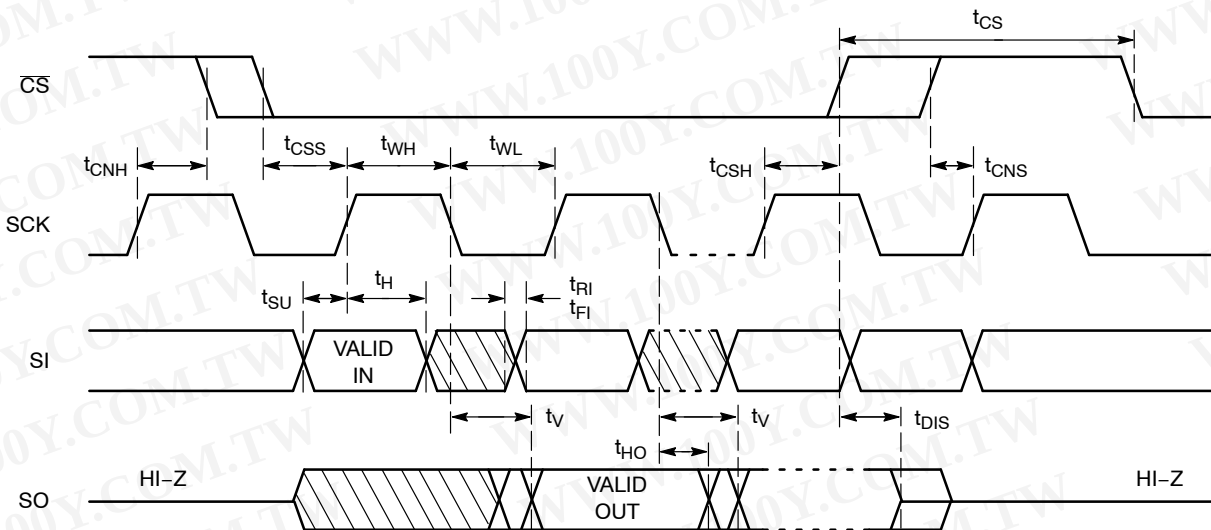

Figure 2. Synchronous Data Timing
7. **All Chip Select (CS) timing parameters are defined relative to the positive clock edge (Figure 2). t_{CSH} timing specification is valid for die revision C and higher. The die revision C is identified by letter "C" or a dedicated marking code on top of the package. For previous product revision (Rev. B) the t_{CSH} is defined relative to the negative clock edge (please refer to data sheet Doc. No. MD-1127 Rev. B).**
After a high to low transition on the $\overline{CS}$ input pin, the CAT25256 will accept any one of the six instruction op-codes listed in Table 7 and will ignore all other possible 8-bit combinations. The communication protocol follows the timing from Figure 2.